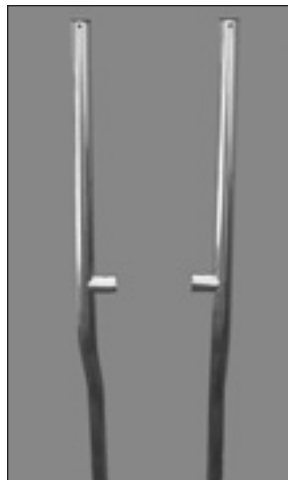
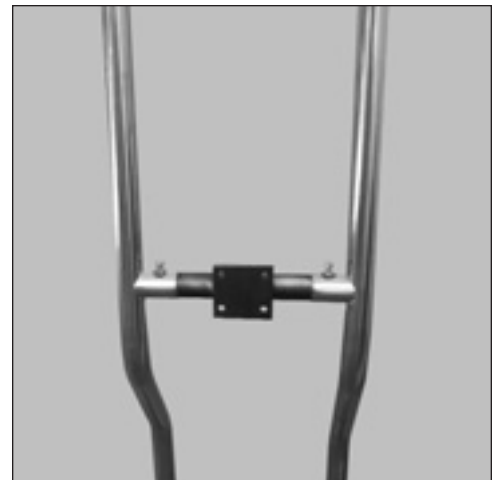

Fig. 18
Fig. 19
STEP TWO: Attach the cross brace to the support posts (See Fig. 18) by inserting the cross brace inside the 2 support post stubs (See Fig. 19). The square 4 hole plate on the cross brace faces the pool. Insert the two (2) 3/8" bolts through the holes adding a flat washer top and bottom of cross piece and then lock washer and nut. Hand tighten only.